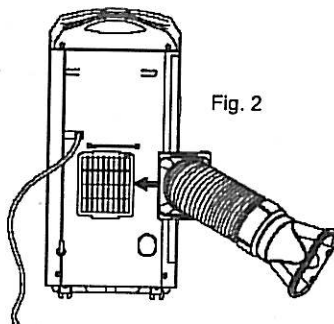

Fig. 2
2. Fix the exhaust hose adapter to the exhaust terminal of the unit (Fig. 2).